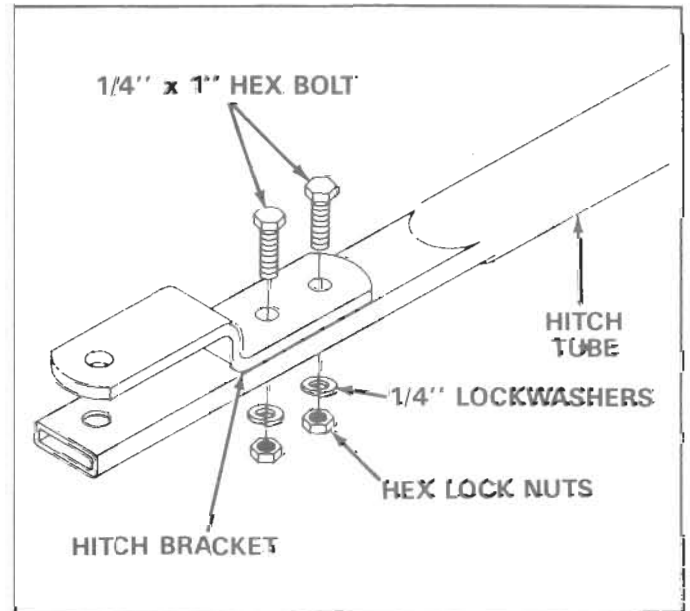

FIGURE 8
14. Assemble the hitch bracket to the hitch tube. See figure 8. Secure with two 1/4" x 1" hex bolts, 1/4" lock washers and 1/4" hex lock nuts. See figure 8.